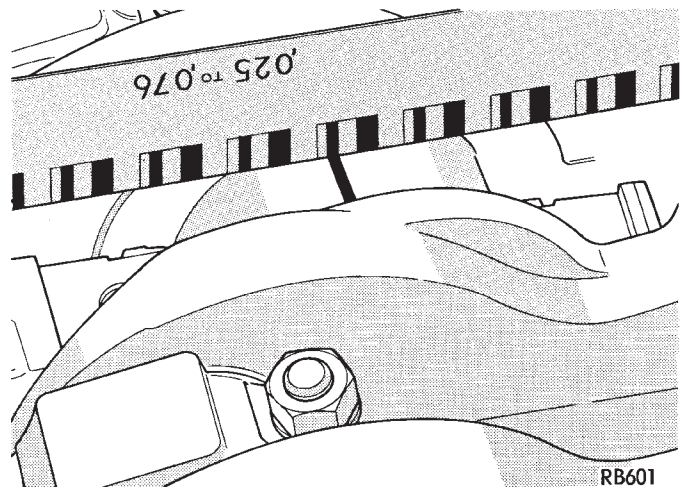

Fig. 16 Connecting Rod Checking Bearing Clearance
(1) Following procedures specified in the Standard Service Procedures Section for Measuring Main Bearing Clearance and Connecting Rod Bearing Clearance. (Fig. 16). Refer to (Fig. 18) for specifications.
- (2) Tighten nuts to 52 N•m (38 ft. lbs.).
- (3) Remove connecting rod cap and measure Plastigage (Fig. 16).